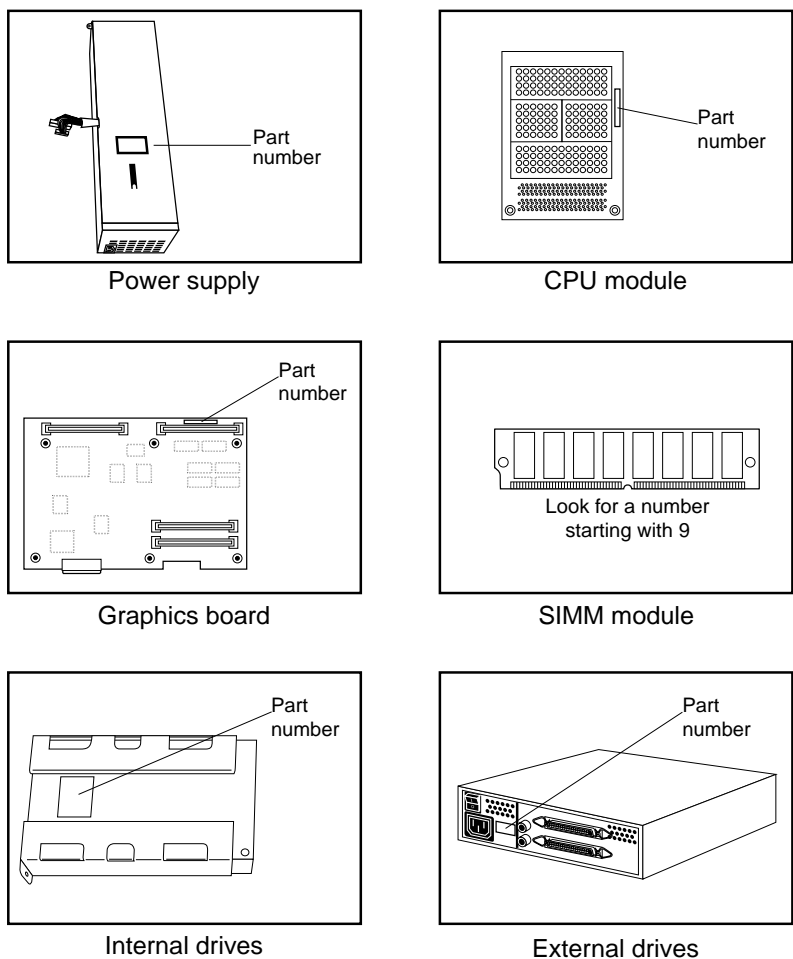

Figure 8-1 Part Number Locations
If diagnostics have identified a faulty part, call your service provider. You will be instructed either to order a replacement part, or to ship the system back. If instructed to return the system, go to “Replacing the System” on page 136. If asked to return the part, Figure 8-1 will help you locate the part number of the faulty part.
6. Look for the part number of the faulty part; it's shown on the part. (Refer to Figure 8-1.)